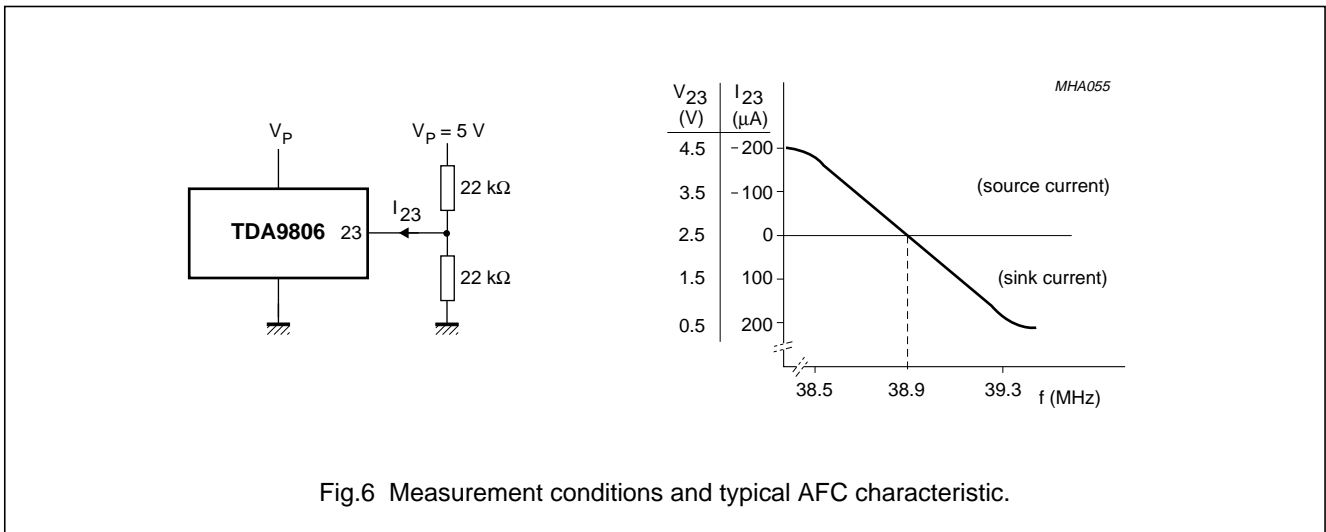

Fig.6 Measurement conditions and typical AFC characteristic.
14. To match the AFC output signal to different tuning systems a current source output is provided. The test circuit is given in Fig.6. The AFC-steepness can be changed by the resistors at pin 23.